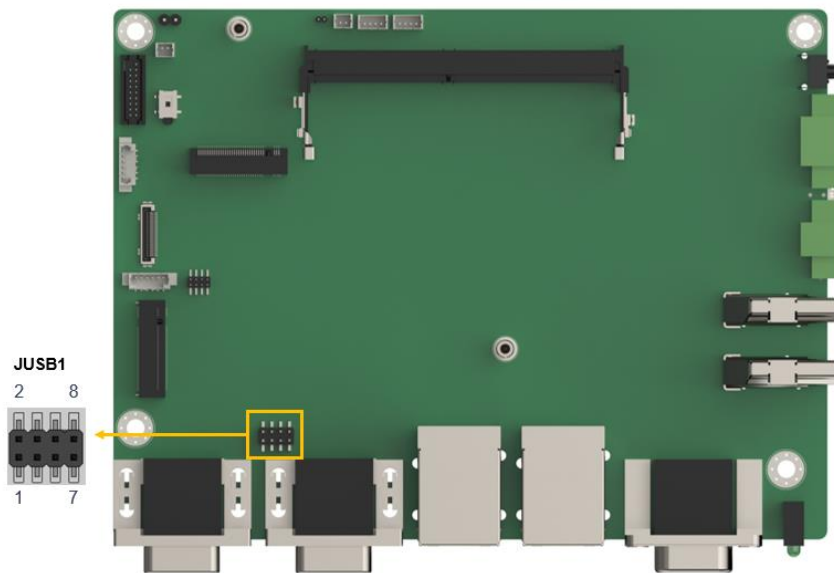

Figure 4-15: Internal USB 2.0 Connectors Locations
- CN Location:** See **Figure 4-15**